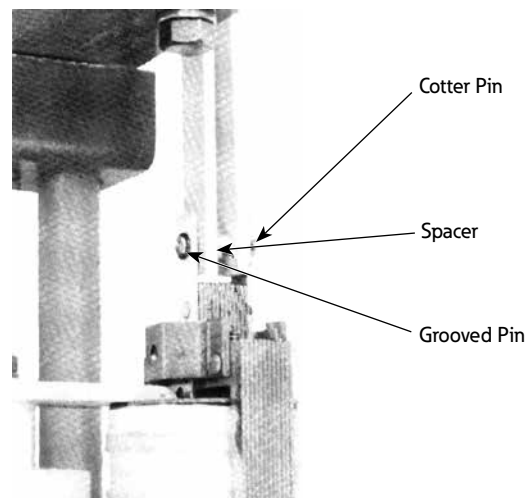

Figure 7. Series trip coil plunger.
1. Remove cotter pin and slide out the grooved pin that connects the insulated operating links to the solenoid plunger. See Figure 7.